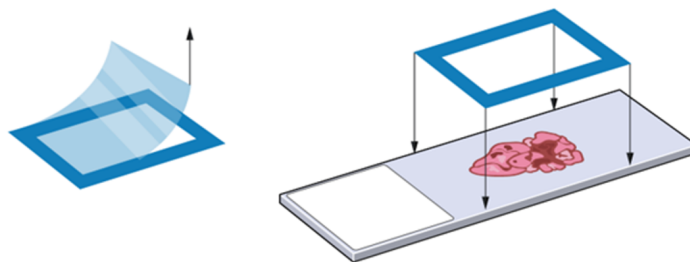

Figure 31: Apply Incubation Frame
4. Apply the incubation frame (Figure 31).